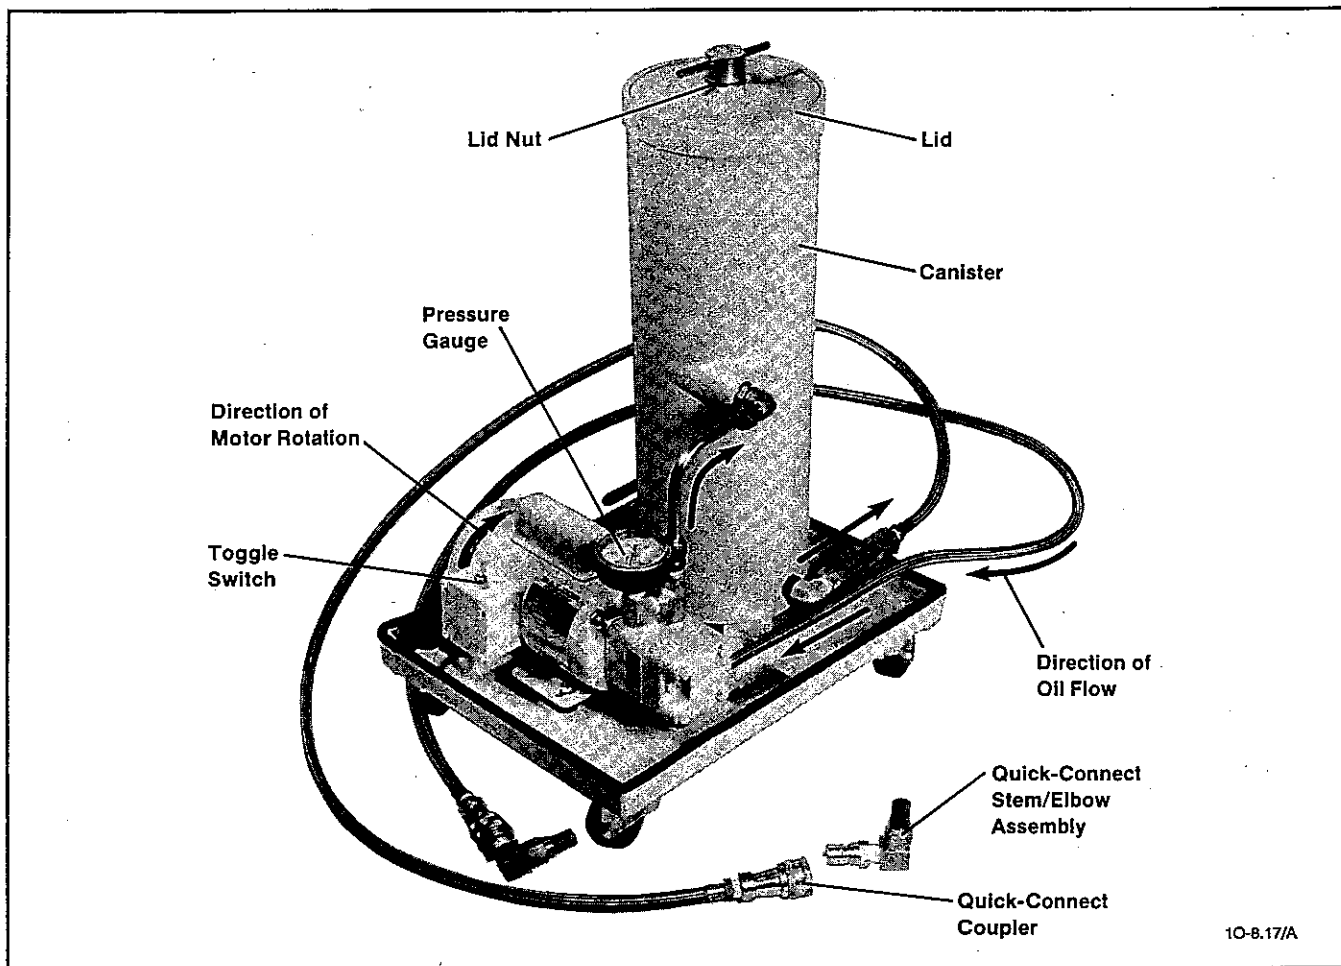

Figure 2-1. OF-3000 Oil Filtering System
- a. After the pressure on the OF-3000 oil-pressure gauge drops to 0, unscrew the lid nut and remove the lid from the canister (see Figure 2-1).
- b. Install the quick-connect stem/elbow/gasket assembly (13/14/26) into the oil-drain port of the vacuum pump as follows (see Figure 2-1).
- 1) Remove a quick-connect stem/elbow assembly (13/14) from one of the OF-3000 hoses by pulling back on the spring-loaded quick-connect coupler (12) and pulling the stem (13) away from the coupler (see Figure 2-1).
- 2) Place a gasket (P/N 239-55-165) from the vacuum pump oil drain/fill plugscrew onto the elbow (14) on the quick-connect stem (13) (see Figure 2-1).
Make the electrical connection and check the direction of motor rotation as follows (see Figure 2-1):
If the OF-3000 is 5 feet or more above the vacuum pump, it is sometimes necessary to prime the OF-3000's gear pump before it will start. To prime the gear pump, remove the pressure gauge, fill the gear pump with the correct vacuum oil, and reinstall the pressure gauge (see Figure 2-1).
2. Switch ON the OF-3000 using the toggle switch on the gear pump motor (see Figure 2-1).
3. Check the OF-3000 canister for oil leaks. If there is any leakage, tighten the lid nut by hand until the leak stops (see Figure 2-1).
1. Attach a quick-connect stem/elbow/gasket assembly (13/14/26) to the oil-fill and oil-drain ports of each extra vacuum pump (see Figure 2-1 and Section 2, Steps 2 and 3). See Table 3-A for part numbers.